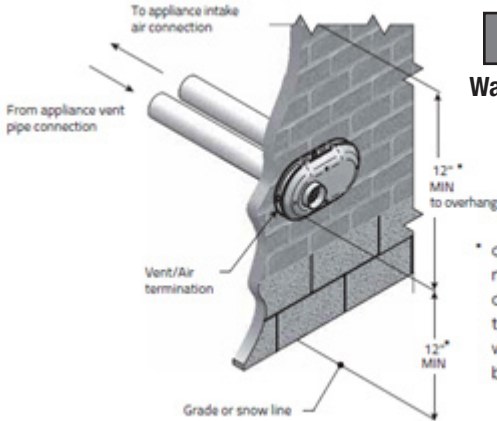

Fig. 2
When locating the penetration of the vent and air pipe, ensure the termination is properly oriented as shown in Figure 3 and ensure that it maintains minimum clearance requirements as shown in Figure 2. For multiple vent terminations, ensure that a minimum clearance of 12 in (30 cm) is maintained between edge of air inlet and adjacent vent outlet and that all vent pipes and air inlets terminate at the same height to avoid the recirculation of flue gases and the possibility of causing severe personal injury, death, or substantial property damage (see Figure 5).
2. Slide both the intake and vent pipe through the holes. Solvent weld both pipes to the base of the vent termination kit (see Figure 2).